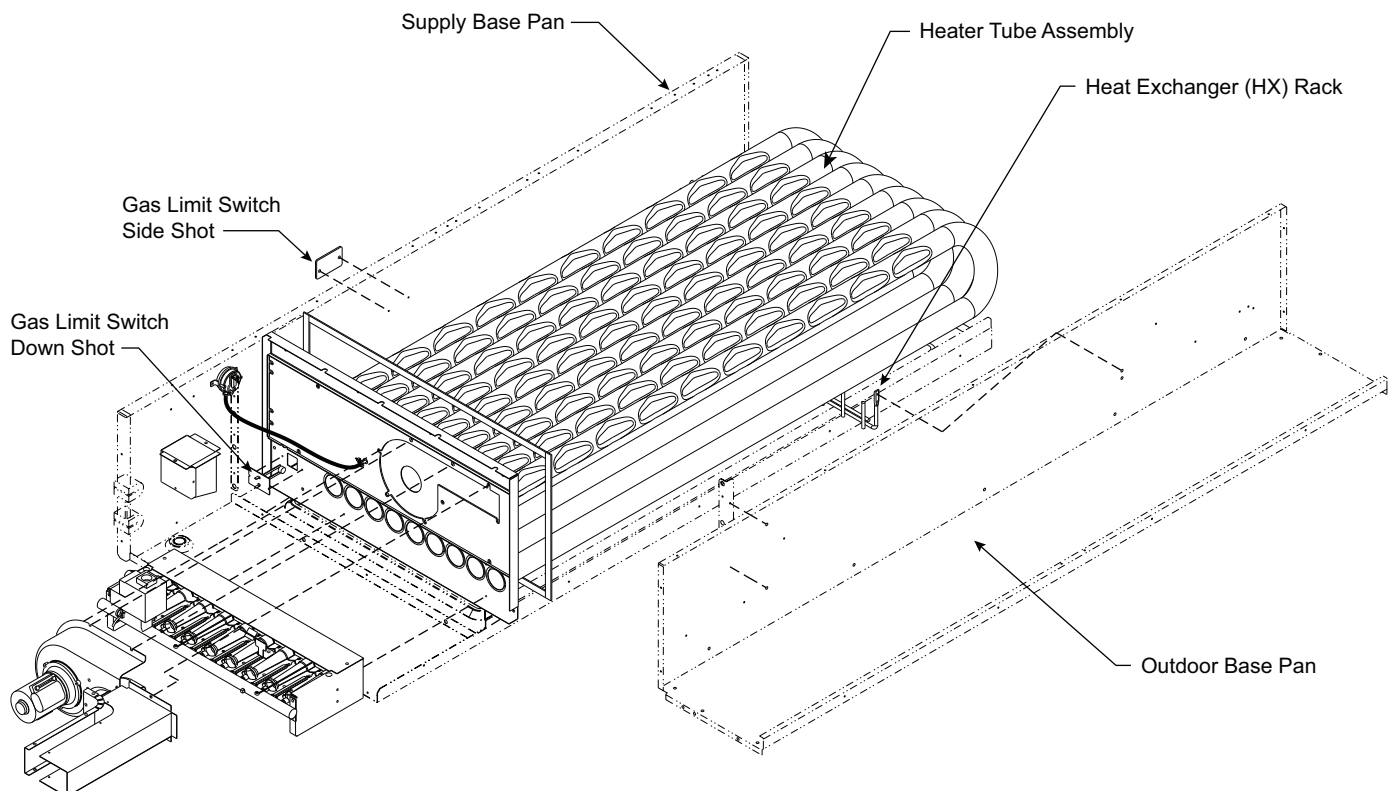

Fig. 50 — Heat Exchanger Access - Gas Limit Switches and HX Rack Locations
1. Remove the screw at the base of the burner partition panel (see Fig. 50) and slide out the panel.
12. Remove the nuts holding the heat exchanger support rack to the fan deck (see Fig. 50).
Remove the indoor blower access panel. Limit switch is located on the heat exchanger cover panel. See Fig. 50.